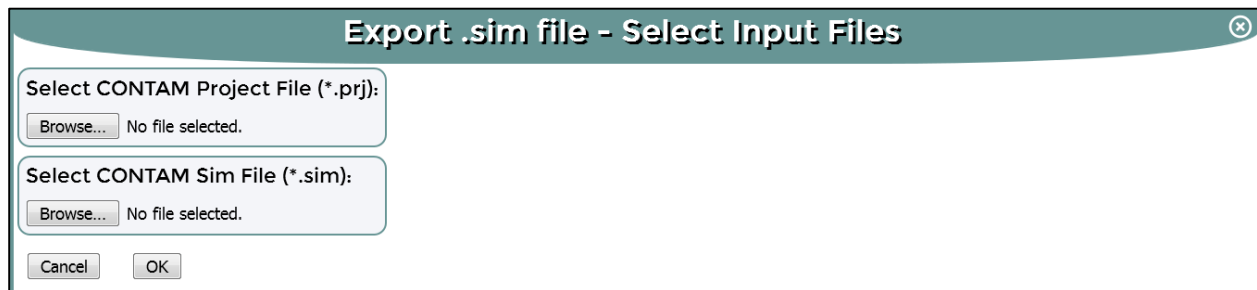

Figure 3. Selecting CONTAM project (.prj) and simulation results (.sim) files
2. Select both a CONTAM project (.prj) and simulation results (.sim) file (Figure 3).
2. Select both a CONTAM project (.prj) file and simulation results (.sim) file (Figure 3).